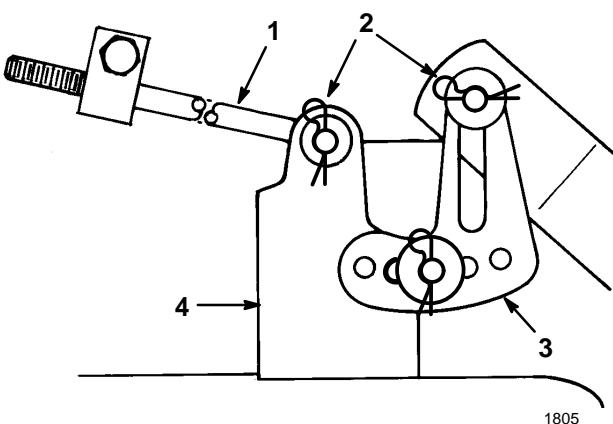

Figure 38
7. Slide the end of the long rod through the hole in the mower mount (Fig. 38). Install the washer and hair pin cotter to secure the rod in place. Repeat this step on the opposite side of the mower.
8. Mount the slotted mower leveling bracket onto the pin on the height-of-cut arm (Fig. 38). Install the washer and hair pin cotter to secure the mower. Repeat this step on the opposite side of the mower.